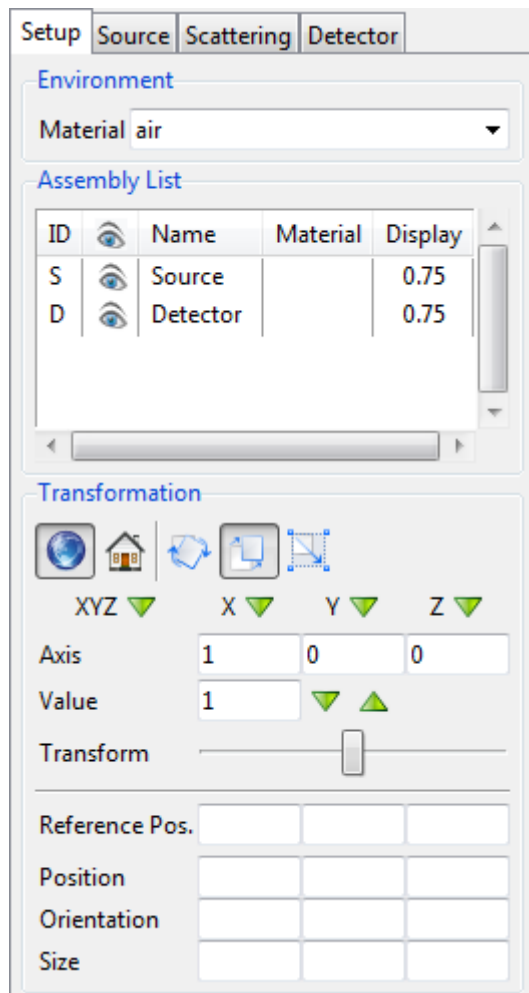

Fig. 7: Parameter Panel
The *Parameter Panel* on the left contains four tabs: *Setup*, *Source*, *Scattering* and *Detector* (Figure 7). Each tab offers several options to modify parameters of the simulation. You can rotate, translate or scale the items of your assembly list, make adjustments to the source and the detector or take scattering into account. Hide/Show the *Parameter Panel* by clicking on *Toggle Setup Visibility* in the *View* menu or by pressing Ctrl-w on your keyboard. Further information about the *Parameter Panel* can be found in the separate chapter.
- The *Transformation* settings of the part can be done below the *Assembly List* (Figure 7). You can select each axis by clicking on the axis button arrow. Type the *Value* or use the arrows next to it.